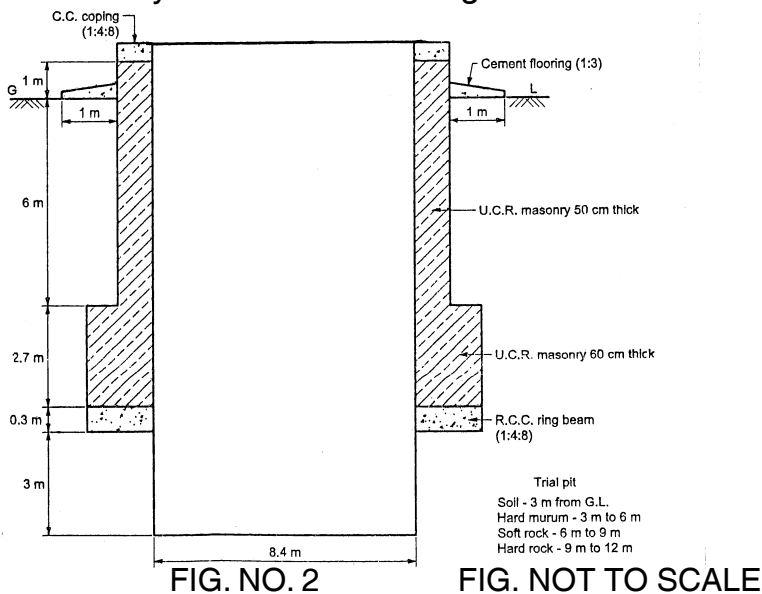

FIG. NO. 2
- c) Calculate the quantity of excavation and UCR masonry work and enter in standard measurement sheet with brief description of item of work for community well as shown in Fig. No. 2.